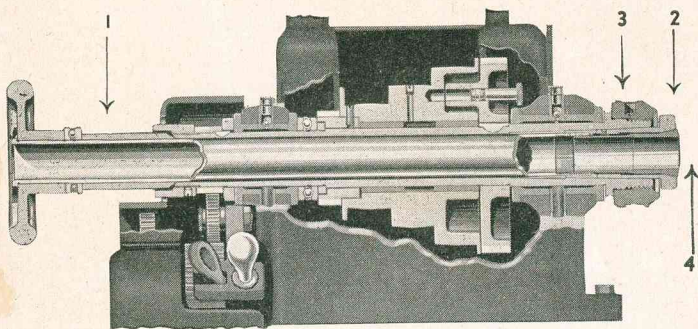

FIG. 74
The Hand Wheel type draw-in collet attachment consists of (1) A hollow bar with a hand wheel on the left end which goes thru the hole in the lathe spindle. (2) A flanged sleeve with a tapered hole bored in the end which inserts into the spindle nose, the flange of which covers and protects the end of the spindle. (3) A threaded collar which goes over the spindle nose thread, and (4) one or more split collets. (Fig. 74)